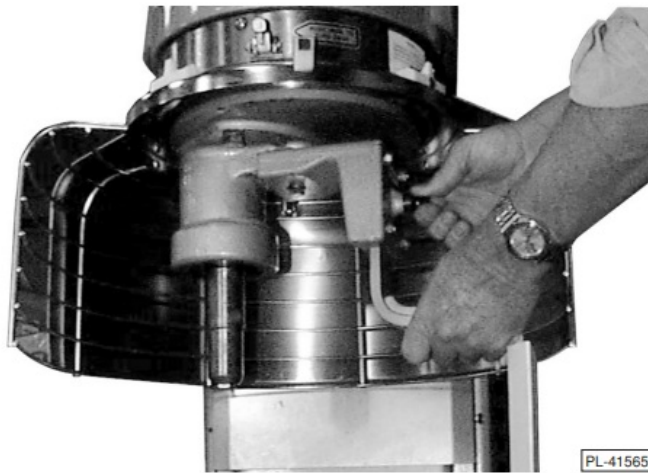
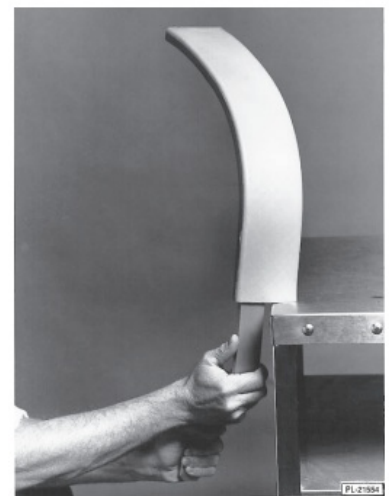

Fig. 15
Fig. 16
- To remove the scraper arm after using: Lower the bowl. Open the Wire Cage Assembly on the Bowl Guard (if equipped). Pull the black knob out. Lower the scraper arm (Fig. 15). If needed, remove the bowl, contents, and beater.
- To remove the scraper arm from the planetary bracket, lower the bowl, pull out the knob, and lower the arm (Fig. 15). Remove the urethane sleeve from the arm. Tapping the sleeve against a table will aid removal (Fig. 16). Clean both parts in a sink with warm water and a detergent solution. Do not wash urethane sleeves in a dishwasher or use water above 110°F. Rinse with clear water and air dry.